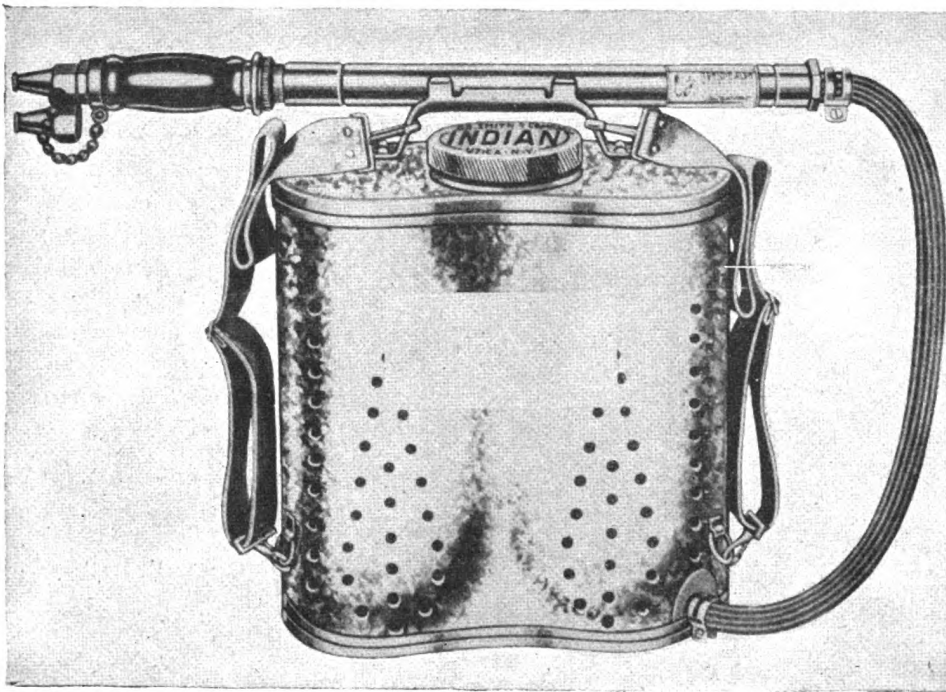

Figure 17. Back-pack type with trombone type pump, 5-gallon capacity.
b. Two types of 5-gallon back-pack extinguishers (figs. 16 and 17) are carried on the operator's back. The model in figure 16 has a pump inside the tank which is operated by working the handle on the side of the tank. The model in figure 17 has a trombone type pump at the end of the discharge hose; it is